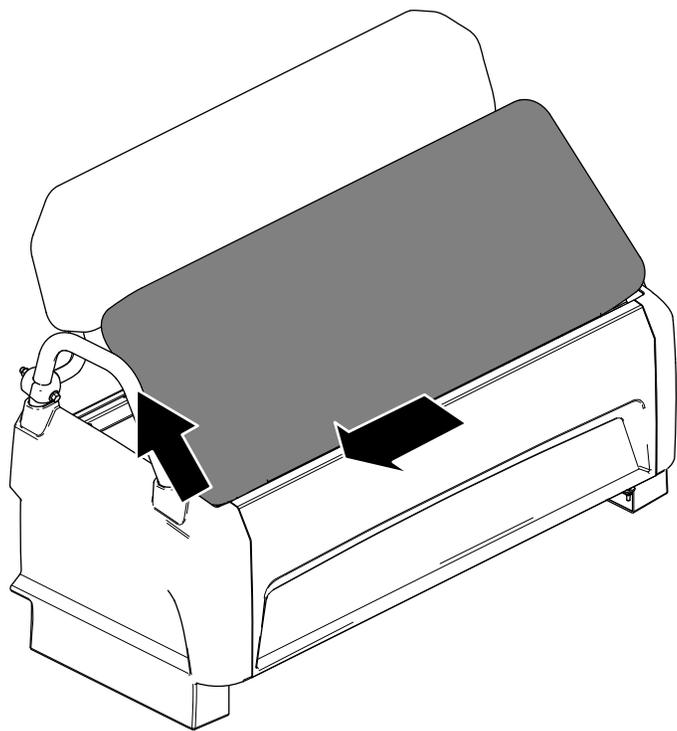

Figure 27
2. Slide the cushion to the side, out of the pins, and lift the cushion upward (Figure 27).